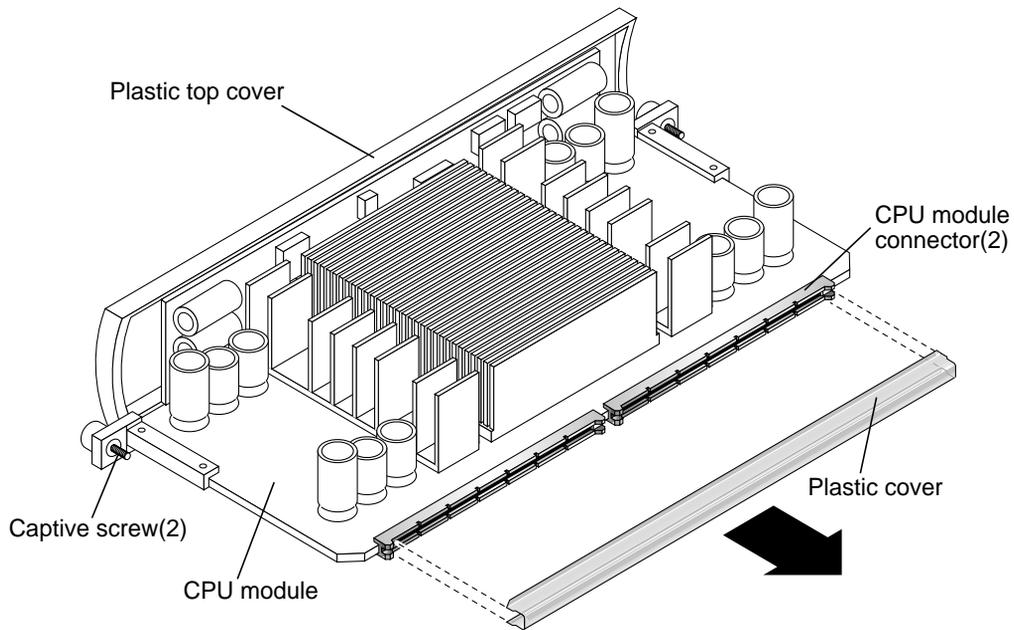

FIGURE 11 Removing the Plastic Cover From the CPU Module Connectors
Caution – Do not touch the board for the CPU module or its components. Touch only the captive screws and plastic top cover of the module to avoid damaging module components by electrostatic discharge (see FIGURE 11).
Caution – As you remove the module from the shroud, handle it only by its captive screws. Do not touch the connectors on the bottom edge of the module or the electrical components on the module. The connectors and the components for the module are easily bent or damaged by improper handling and by electrostatic discharge (see FIGURE 11).
1. Remove the plastic cover from the CPU module connector (see FIGURE 11).